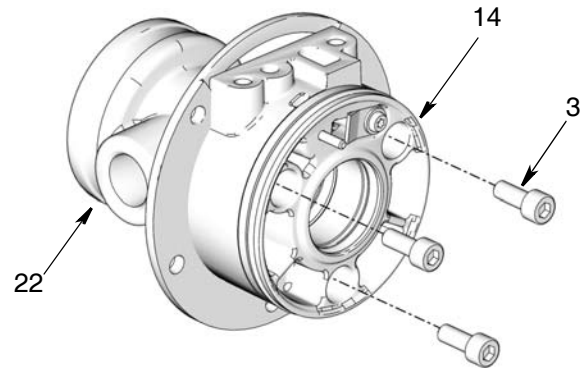

Fig. 11
- Pull the flange assembly off the displacement rod (25). Set the displacement rod aside. You will not need it until you reassemble the pump.
- Using a 5 mm socket wrench remove the 3 screws (3) from the bottom cover (14) (Fig. 11).
- Separate the bottom cover (14) from the flange (22) (Fig. 11).